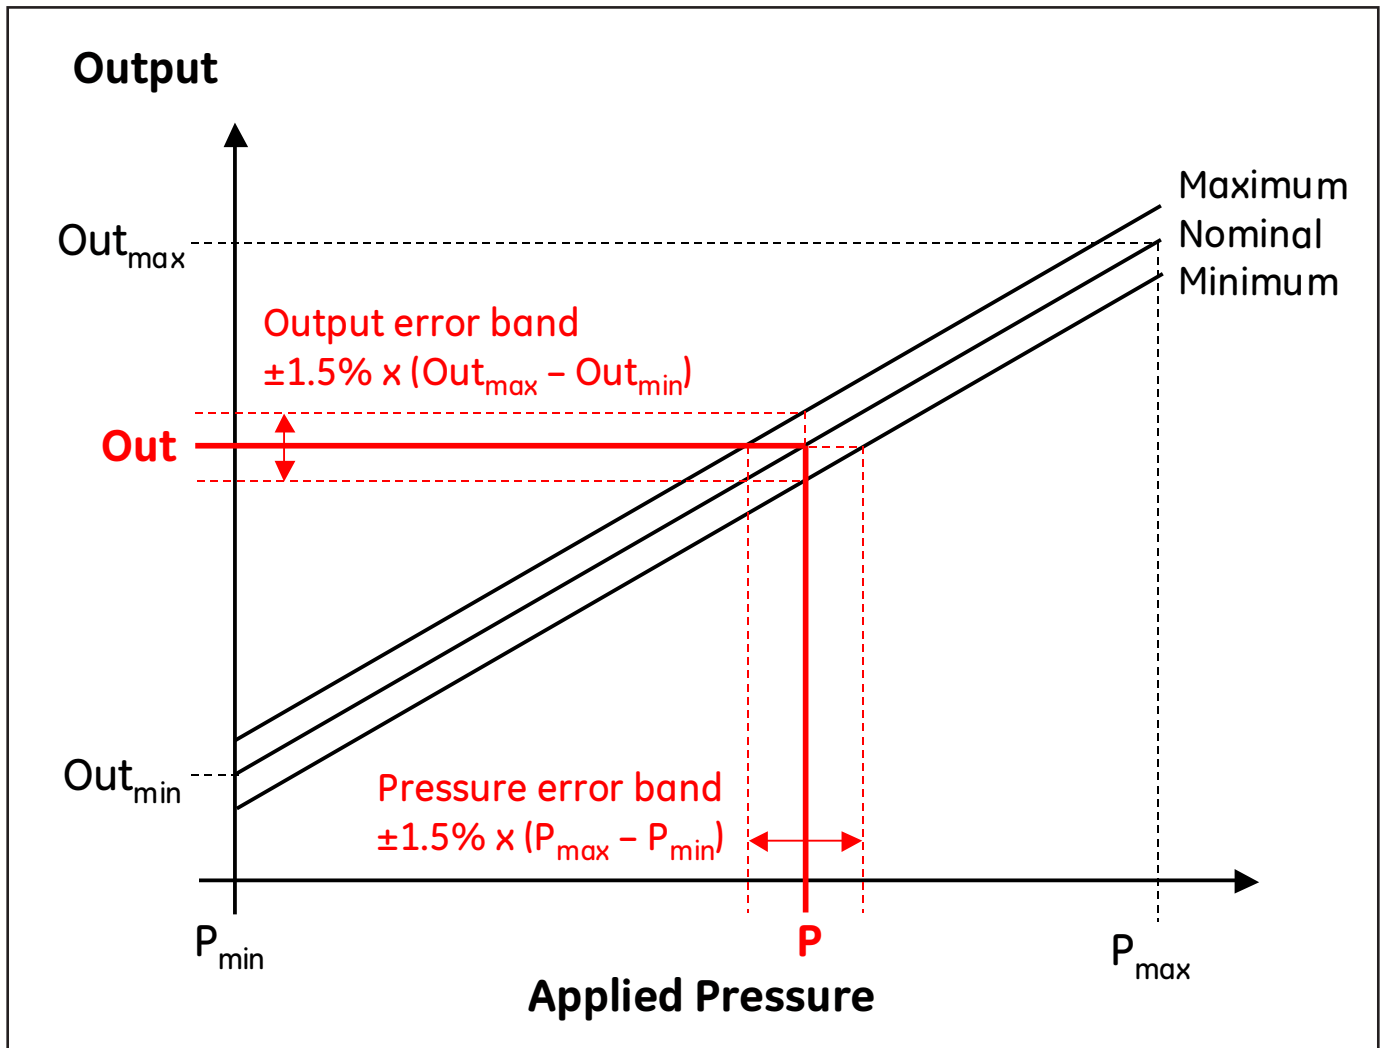

Figure 2: Accuracy of Calibrated NPA Types
The measurement accuracy of calibrated NPA types is defined in terms of  $\pm\%$  of full scale (FS) over a specified compensated temperature range. Standard parts are specified to be  $\pm 1.5\%$ . This accuracy figure is a total error band and includes all errors due to offset, span, linearity and temperature, as illustrated in Figure 2 below.